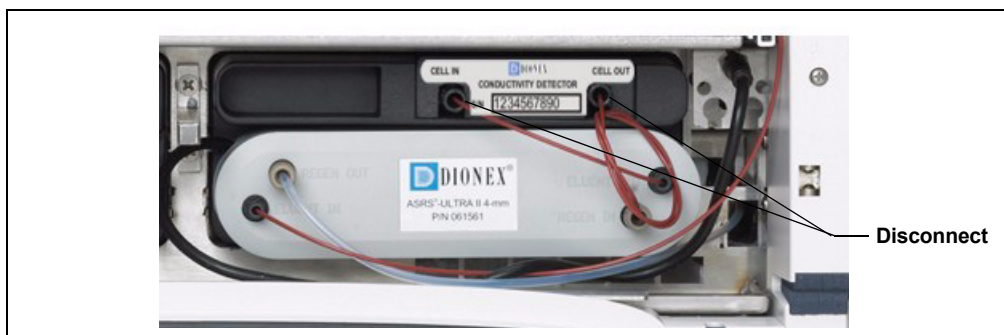

Figure 9-31. Disconnecting the Conductivity Detector Liquid Lines
3. Open the DC upper door and disconnect the tubing from the conductivity detector **CELL IN** and **CELL OUT** fittings (see Figure 9-31).